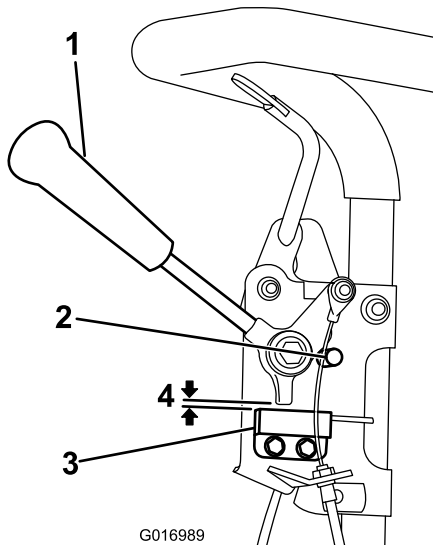

Figure 29
1. Make sure the engine is off and the traction lever is disengaged and resting against the neutral stop (Figure 29).
2. Loosen the interlock switch mounting fasteners (Figure 29).
3. Place a 0.032" thick shim between the traction lever and the interlock switch (Figure 29).